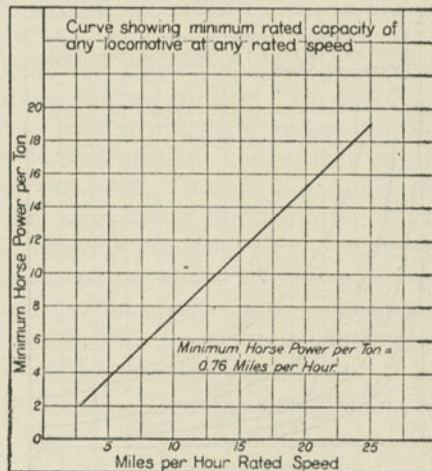

Fig. 399.
A. Suppose 14 miles an hour is desired, with a 47-ton engine. Fig 399 gives the minimum rated H. P. at 14
$50 \div 9.6 = 5.2$  tons. Fig. 399 shows at 12 m. p. h. with forced ventilation, minimum equipment necessary, 7.6 H. P. per ton. Hence the locomotive should exert  $7.6 \times 52 = 395$  H. P. (i.e. for electric traction four 100 H. P. motors geared for 12 m.p.h. rated speed and with forced ventilation).